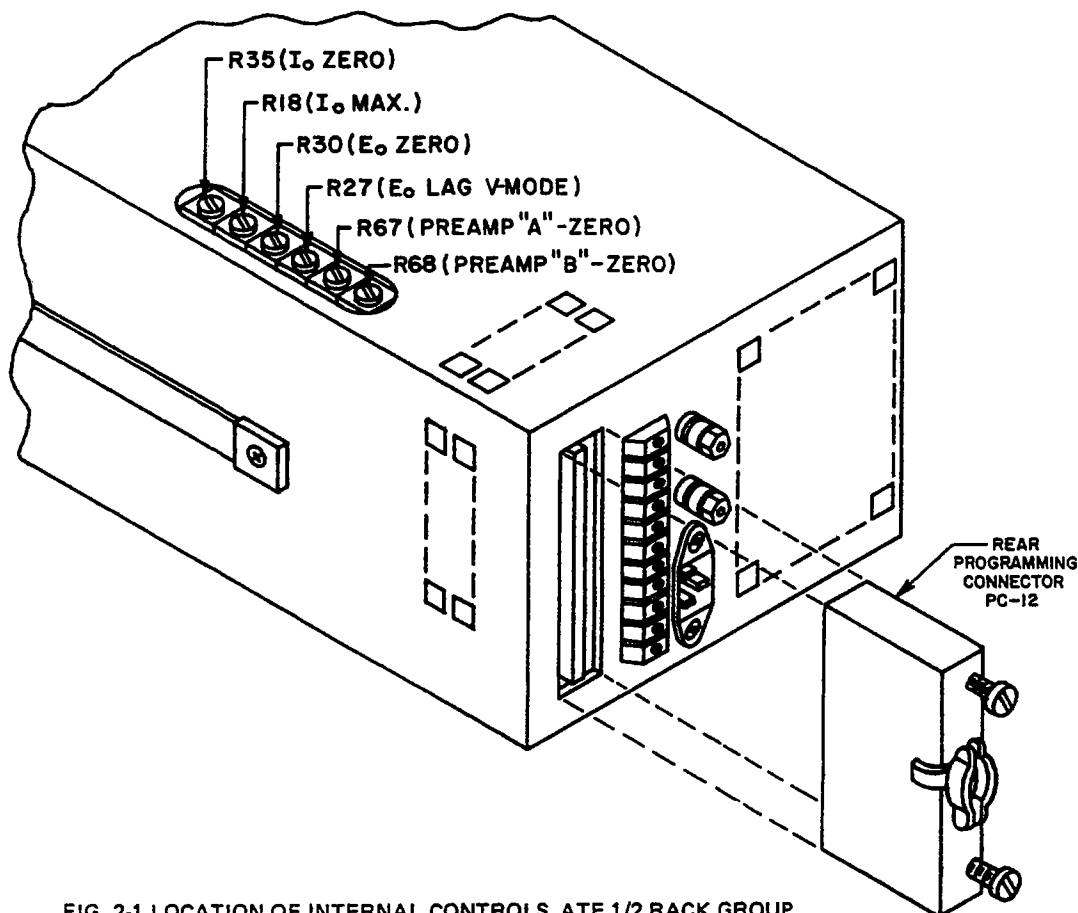

FIG. 2-1 LOCATION OF INTERNAL CONTROLS, ATE 1/2 RACK GROUP.
- c) INTERNAL CONTROLS: Refer to FIG. 2-1 and Table 2-1.
- 2-19 LAG NETWORK ADJUSTMENT. The ATE power supply operating in the "fast" mode, is dynamically stabilized by means of an internal lag network (E_O LAG, R27, see FIG. 2-1 for location). This control should be adjusted, for each application, by monitoring the load with an oscilloscope and turning the LAG control for best output response and maximum dynamic stability under all operating conditions.